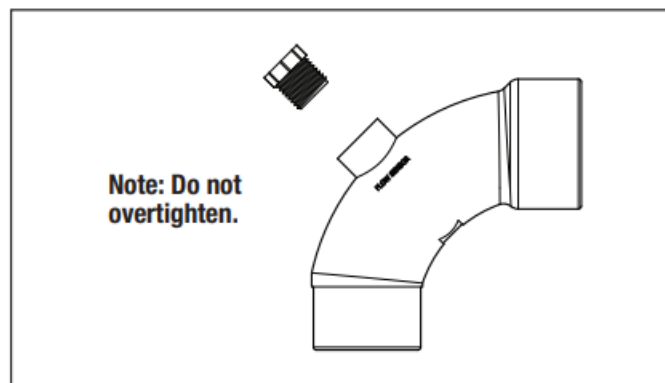

Figure 7. Sweep Elbow
1. The CV model filter comes with a Jandy Pro Sweep Elbow for this purpose. The sweep elbow also includes a threaded port and plug so that a ½" hose bib can be connected for pressure testing. See Figure 7.